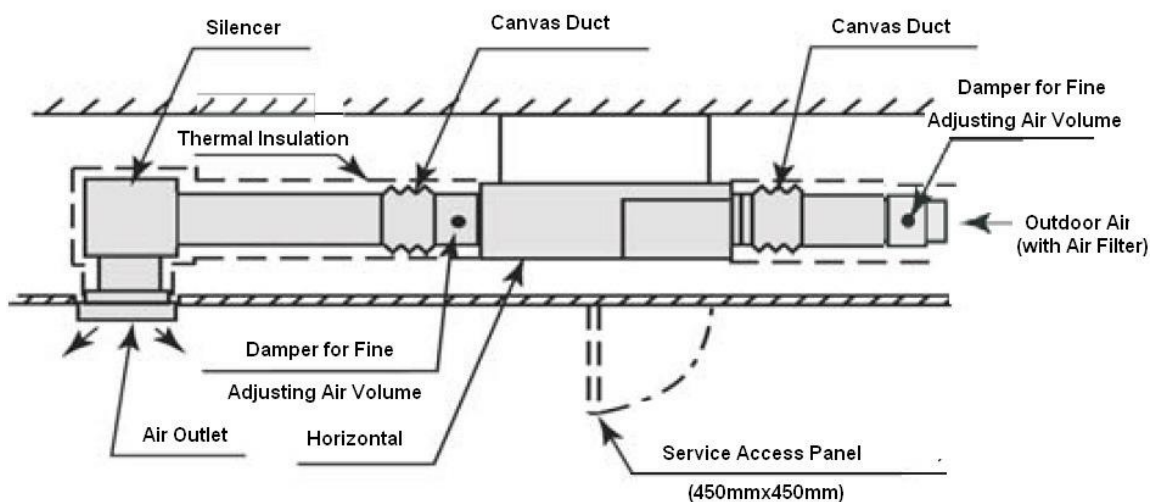

Fig. 4.8 Duct Connection
- (1) The supply duct should be connected with the indoor unit through canvas ducts, in order to avoid abnormal sound vibration (Refer to Fig. 4.8). The unit is equipped with a pre-drilled duct flange for the supply duct connection.
- (2) Attach the vibration proof rubber to Sling Bolt in order to avoid abnormal sound vibration.
- (3) Duct material should be non-flammable material.
- (4) Perform the heat insulation work over the duct for dew protection.